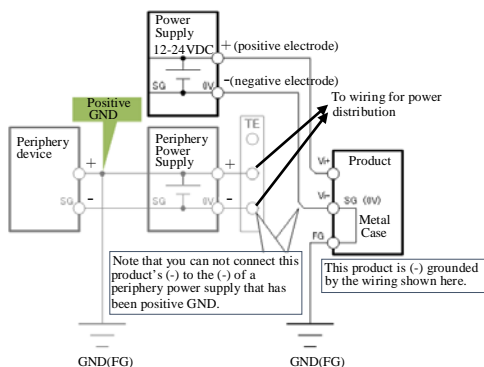

Figure 2.6. Example in power supply wiring
- The negative electrode (Vi-) terminal and the FG terminal of this product's power supply terminal are connected to the metal casing. Negative grounding is performed when the FG terminal is grounded or when the device to which the metal casing is attached is grounded, so use this product with negative grounding as shown in the wiring example in Figure 2.6. Performing positive grounding may short circuit the power supply, which may cause malfunction, heat generation, faults, or damage..